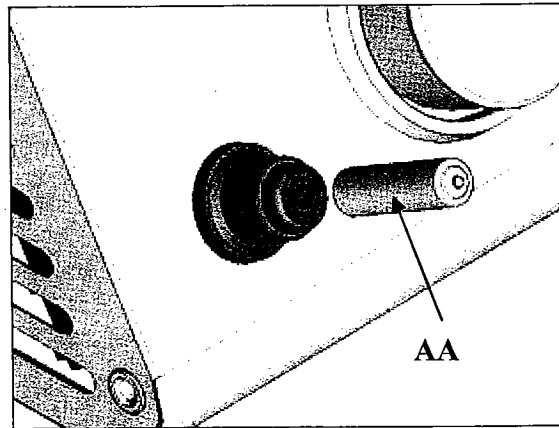

Fig. 31
- e. Put a AA battery into the electronic ignition with correct pole direction. (Please refer to the battery mark on the side of the cap, see Fig. 31.) Press the black igniter to check if there are sparks produced between the ignition pin and rear or rotisserie burner. If not, please refer to the Troubleshooting Guide section to solve the problem.